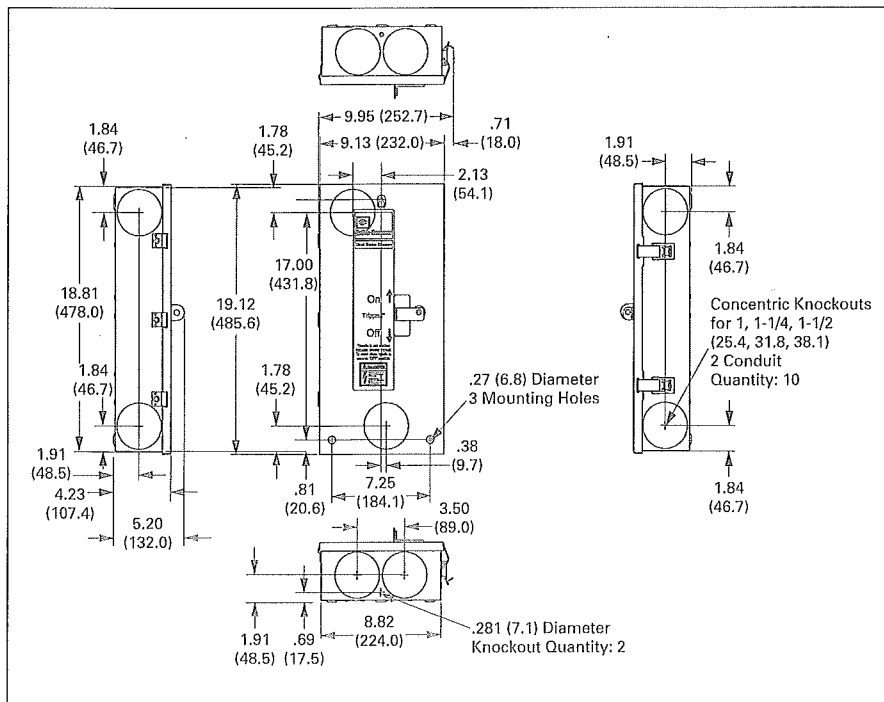

Figure 1. NEMA 1 Surface Mounted SFDN100 Series "B"
① SFDN100 Series "B" released 9/15/01. (See Figure 1)
② Maximum wire size: 4/0.
③ Total width, including door clip is 9.95 inches (253 mm).
④ Single centered mounting hole provided.
⑤ Maximum wire size: 500 kcmil.